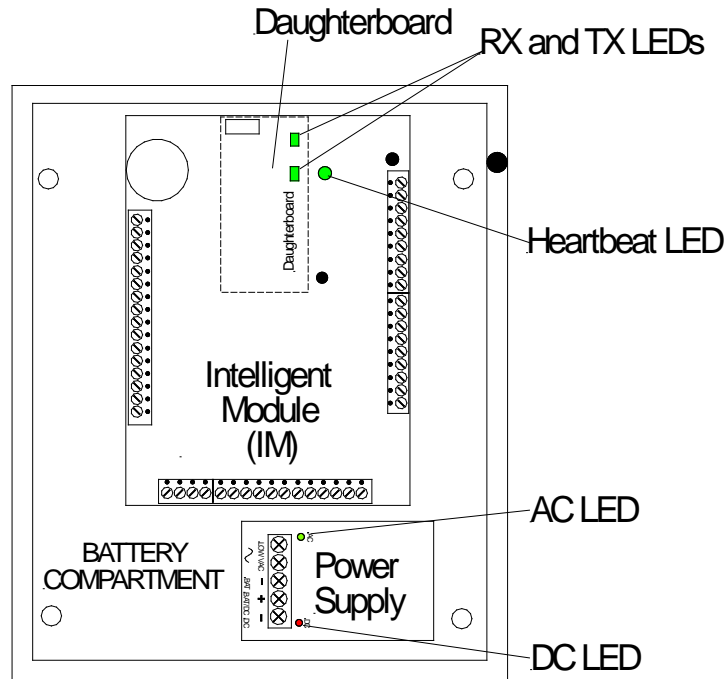
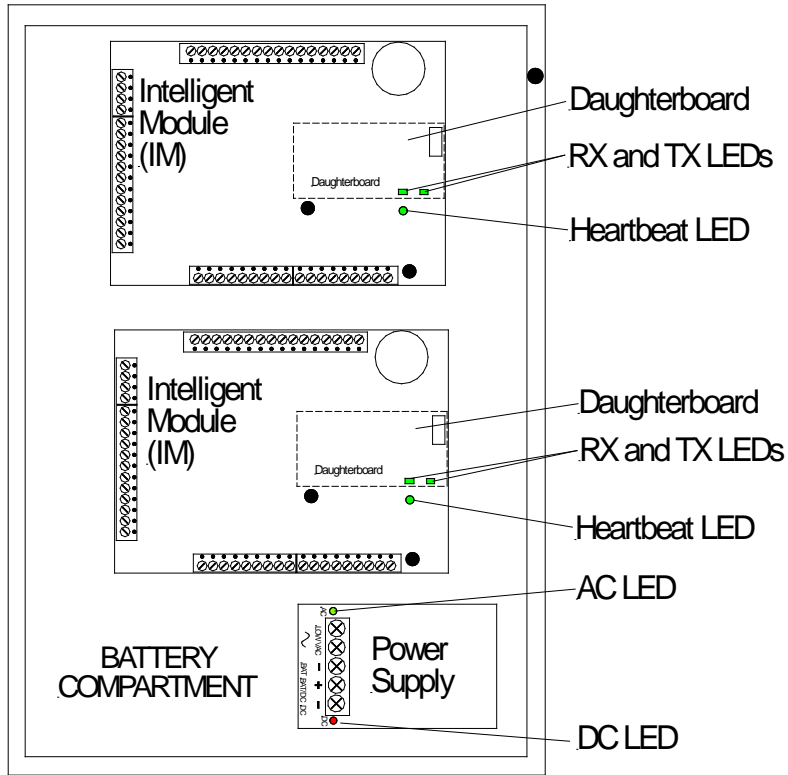

Figure 9-1. Single Intelligent Module Panel LED Locations
Figure 9-2. Two Intelligent Module Panels with LED Locations
During normal operation, the LED indicators on each Intelligent Module, power supply, daughterboard, and device server operate as described in Table 9-1. Figure 9-1 and Figure 9-2 illustrate the LED locations.
- Both the AC LED and DC LED (see Figure 9-1 and Figure 9-2) on the power supply remain lit; but the Intelligent Module malfunctions.